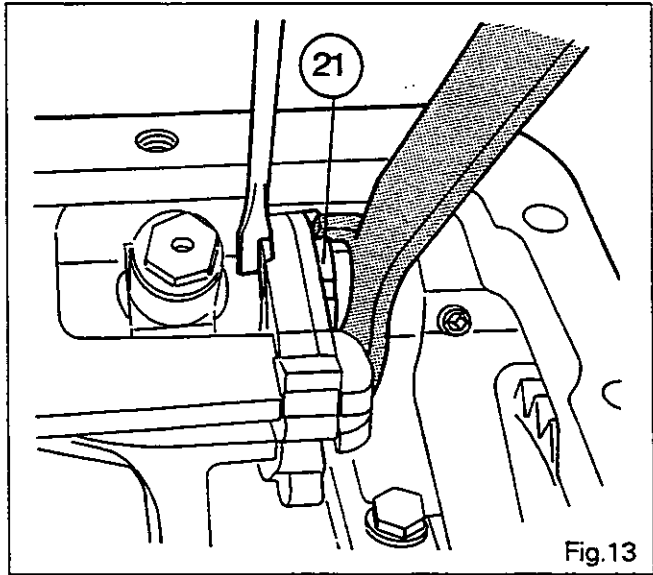

Fig. 13
- 52* Temporarily refit the setscrew (8).
- 53. Loosen the castellated nut (21) using the special wrench, 3615334 M01 (Fig. 13), and see Part C.